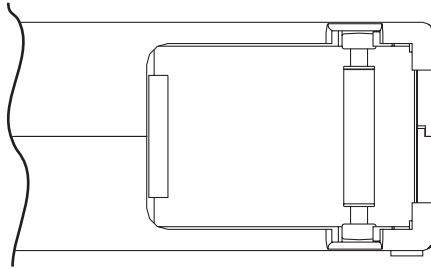

Figure 15. Leader pin in the incorrect and correct positions. The cartridge door is open and the leader pin is visible inside the cartridge.
**Example: Improper placement of the leader pin (see Figure 15 on page 66)**
A leader pin that is improperly seated inside a cartridge can interfere with the operation of the drive. Figure 15 on page 66 shows a leader pin in the incorrect and correct positions.